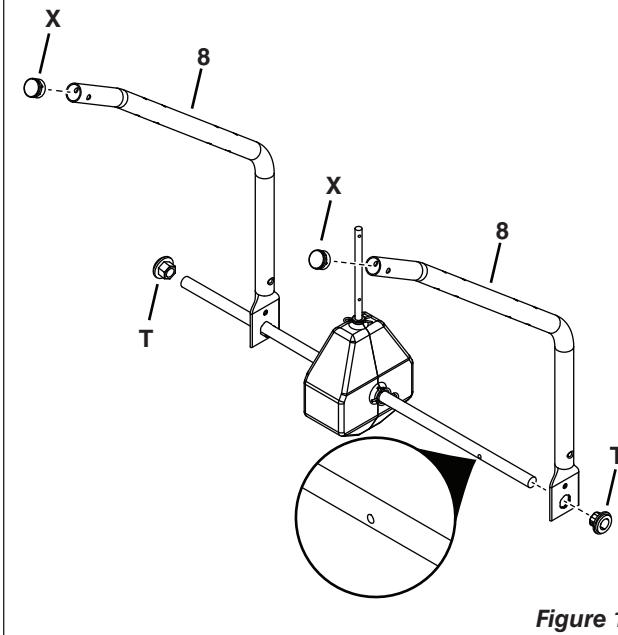

Figure 1
- (1) Pliers
- (2) 7/16" Wrenches
STEP 1: (SEE FIGURE 1)
- Insert the plugs (X) into the end of the hopper support tubes (8).
- Press the hex bushings (T) into the hex holes in the bottom of the hopper support tubes (8).
- Slide the hopper support tubes (8) onto the gearbox axle.